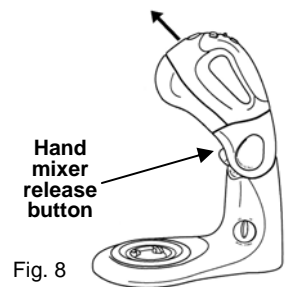

Fig. 8
6. Then press the mixer release button which is located on the under side of the pivot support with one hand and with the other lift the hand mixer by the handle upwards and away from the support pivot. (Fig. 8)